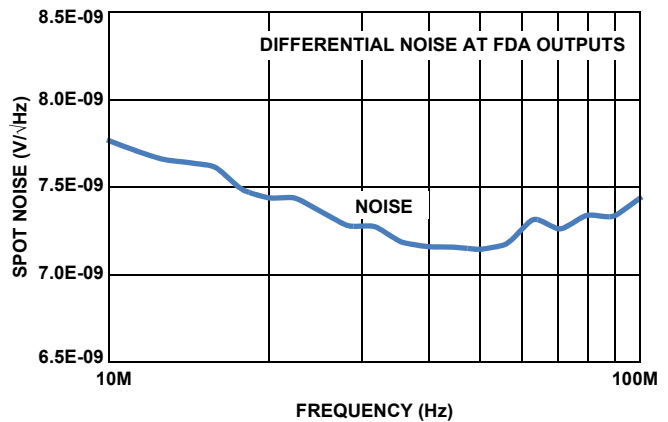

FIGURE 8. MEASURED OUTPUT NOISE FOR THE CIRCUIT OF FIGURE 4
The Noise Figure (NF) in this relatively low gain setting calculates to approximately 7dB. This low NF is depending on the low  $0.85\text{nV}/\sqrt{\text{Hz}}$  differential input spot noise for the ISL55210 and the reduced resistor values enabled by this active input match capability. Going to higher gain settings will reduce the input NF where for gains  $> 22$ dB it drops below 6dB; a remarkable number for a 115mW amplifier. These numbers are from an analysis using only the differential path noise numbers. Since this topology will also have a common mode noise component, the measured NF will be slightly higher due to component mismatches converting a small portion of the common mode noise to differential. Measuring the spot output noise for the default configuration of the active balun board with a  $50\Omega$  termination on the input and referring that measurement to the FDA differential output pins gives the plot of Figure 8.